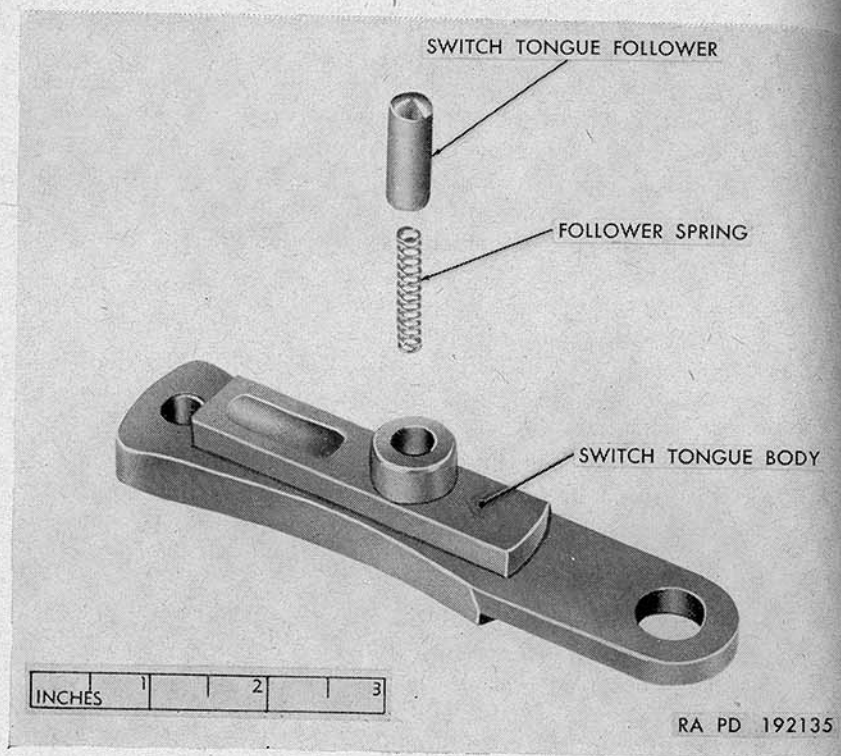

Figure 95. Switch tonnage assembly—exploded view
b. Using a drift, drive out the switch tongue follower from its well in the switch tongue body (fig. 95).
- Insert switch tongue follower spring in the switch tongue follower (fig. 95).